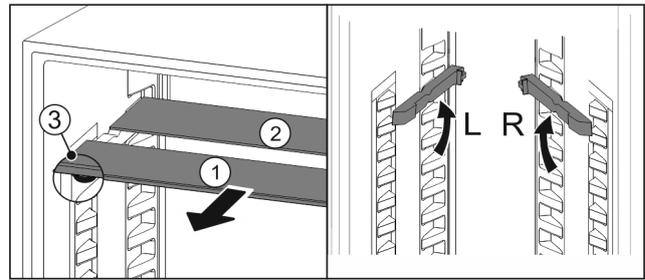

Fig. 118
- ▶ Pull the glass panels out Fig. 118 (1) from the front, one at a time.
- ▶ The glass panel Fig. 118 (1) and trim strip are at the front.
- ▶ The stops Fig. 118 (3) point down.